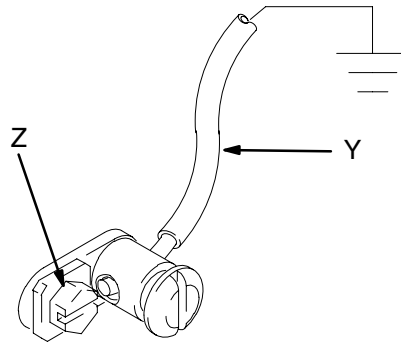

Fig. 2
5. *Agitator*: remove the ground screw (Z) and insert through the eye of the ring terminal at end of ground wire (Y). Fasten the ground screw back onto the pump and tighten securely. Connect the other end of the ground wire to a true earth ground. See Fig. 2. *To order a ground wire and clamp, order Part No. 222011.*
6. *Suction hose*: attach the hose ground wire to the ground lug on the agitator. See Fig. 2. If you are not using an agitator, attach the wire to the fluid supply container.